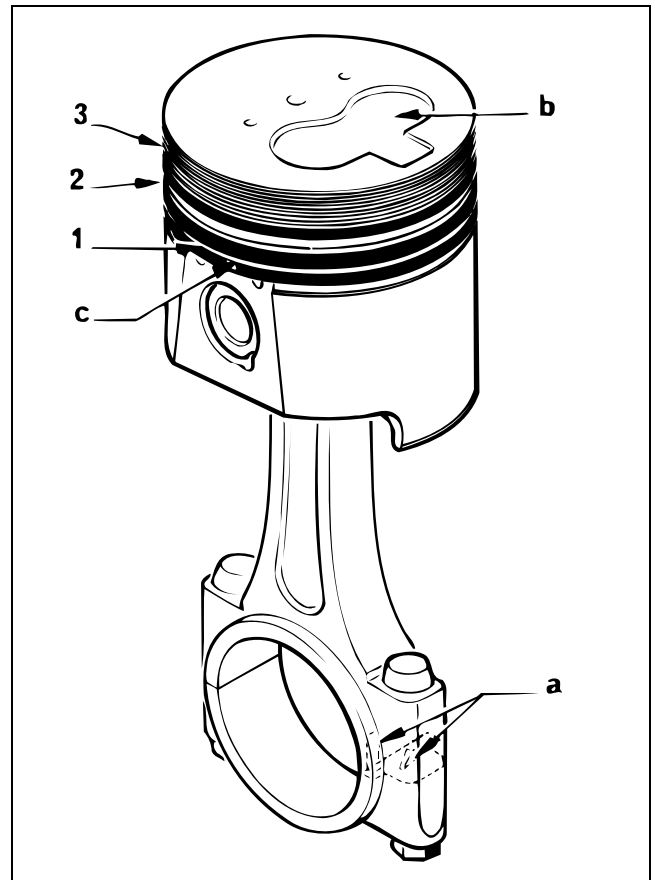

Figure 77
1. Assemble the connecting rods and pistons with the bearing shell tab recess (Fig. 77, Item a) on the same side as the piston crown recess (Item b).